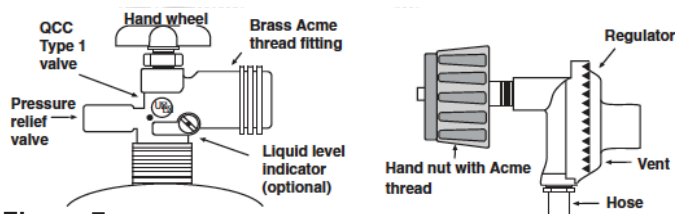

Figure 7
- The pressure regulator and hose assembly used must match the specification for Type I by ANSI Z 21.58/CGA 1.6 (See Figure 7)
Turn the hand nut counterclockwise until detached. See Figure 7.